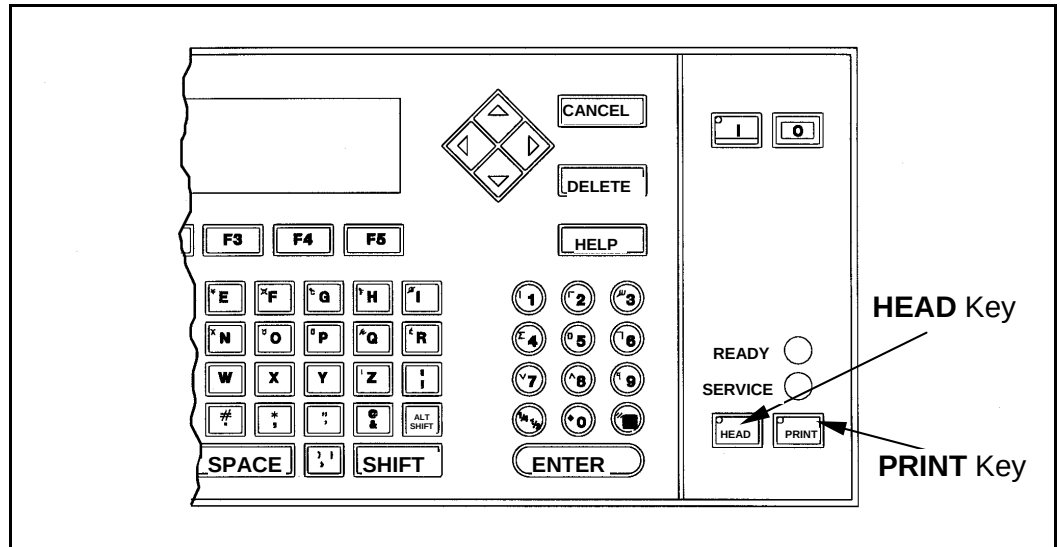

Figure 4-4. HEAD and PRINT Key
1. Press the **HEAD** key on the keyboard. This will begin the printhead 97 second startup sequence (refer to Figure 4-4).